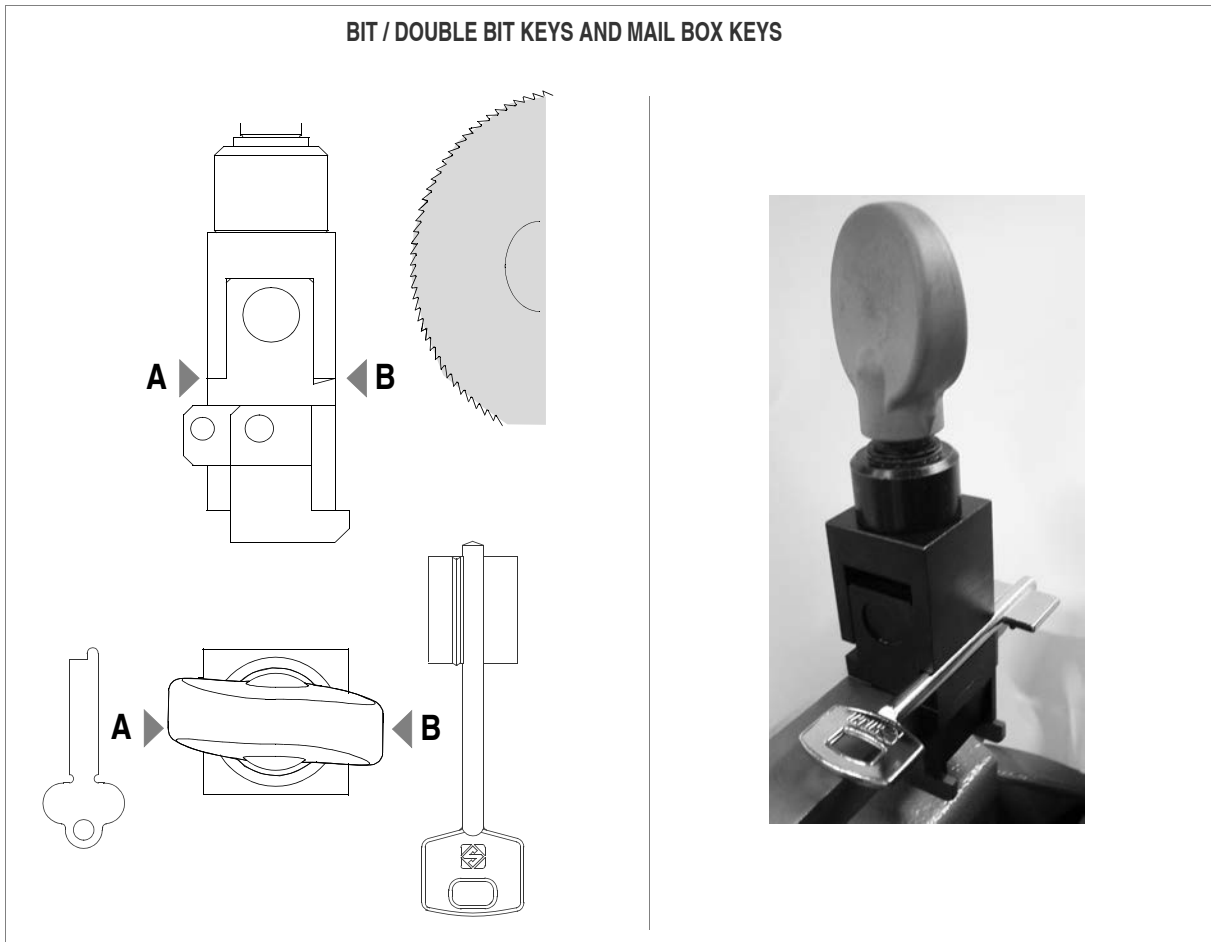
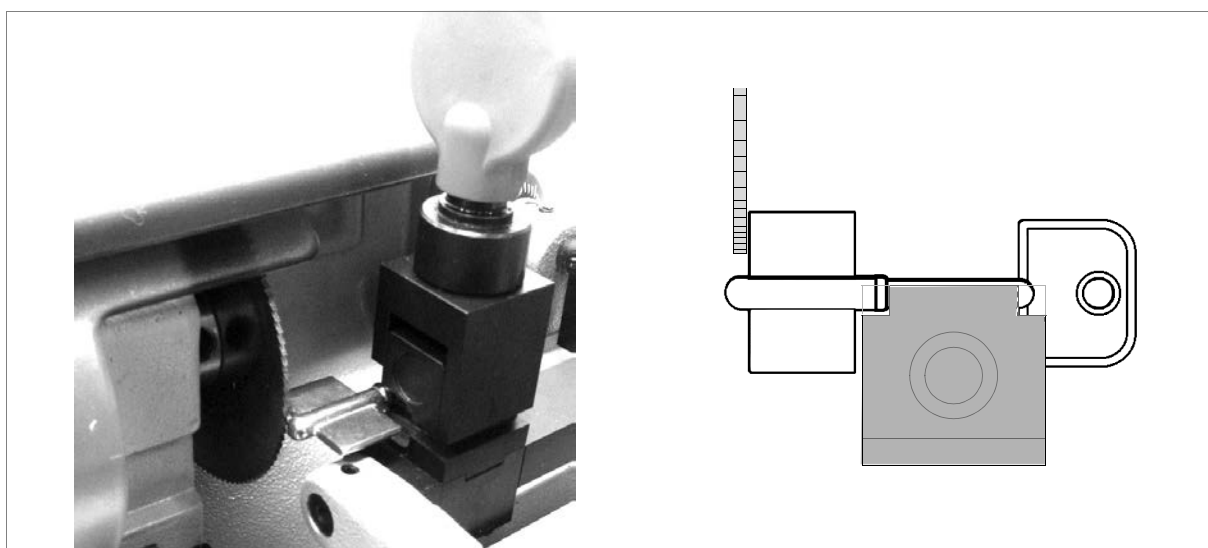

Fig. 42
Fig. 48
- 2) Loosen the knobs (E) by a couple of turns.
- Clamp side for bit, double bit keys and bit keys with central stop (position B) (fig. 42)
- Clamp side for mail box keys (position A) (fig. 42)
- 1) Prepare the clamps with the required side facing the cutter and tracer point (fig. 42).
- 2) Lock the clamps in the horizontal position by means of the pin (L) (chap.7.1.4, page 23).
- 4) Raise the carriage and place the bit against the cutter (fig. 48).